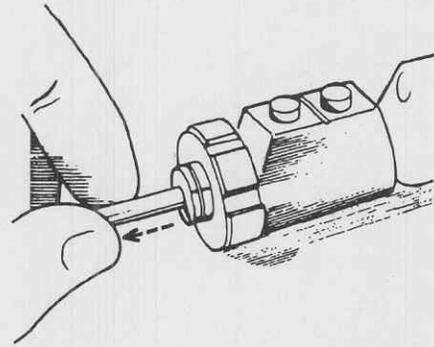

Figure 2-6. Cutter/bur insertion check.
- c. Ensure that the location key on the cutter/bur shaft is securely engaged into the key receptacle on the handpiece. Gently pull on the cutter/bur to ensure that it is securely affixed as illustrated in figure 2-6.